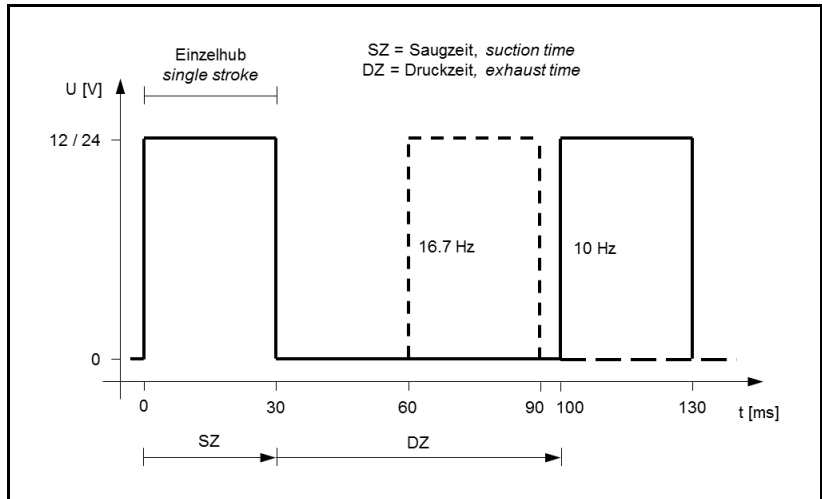

Fig. 7: Control signal (pulse)
**i** For reasons of accuracy the suction time, or the energised time (SZ), must be kept constant and the stroke frequency must be adjusted via the exhaust time (DZ) (see *Fig. 7*).